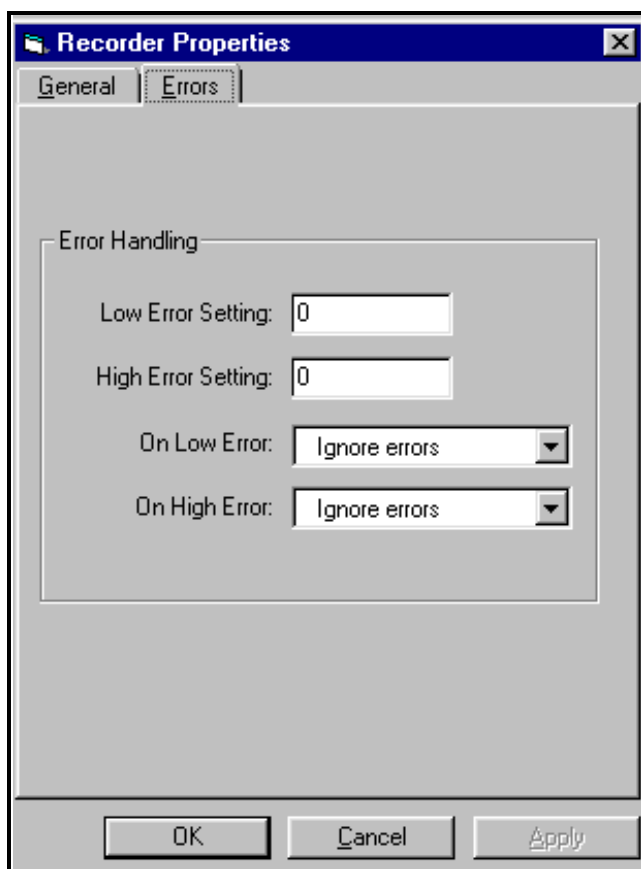

Figure 54: Recorder Properties Window - Error Handling
1. To program the Series 1 for error handling, click on the “Errors” tab. The screen appears similar to Figure 54.